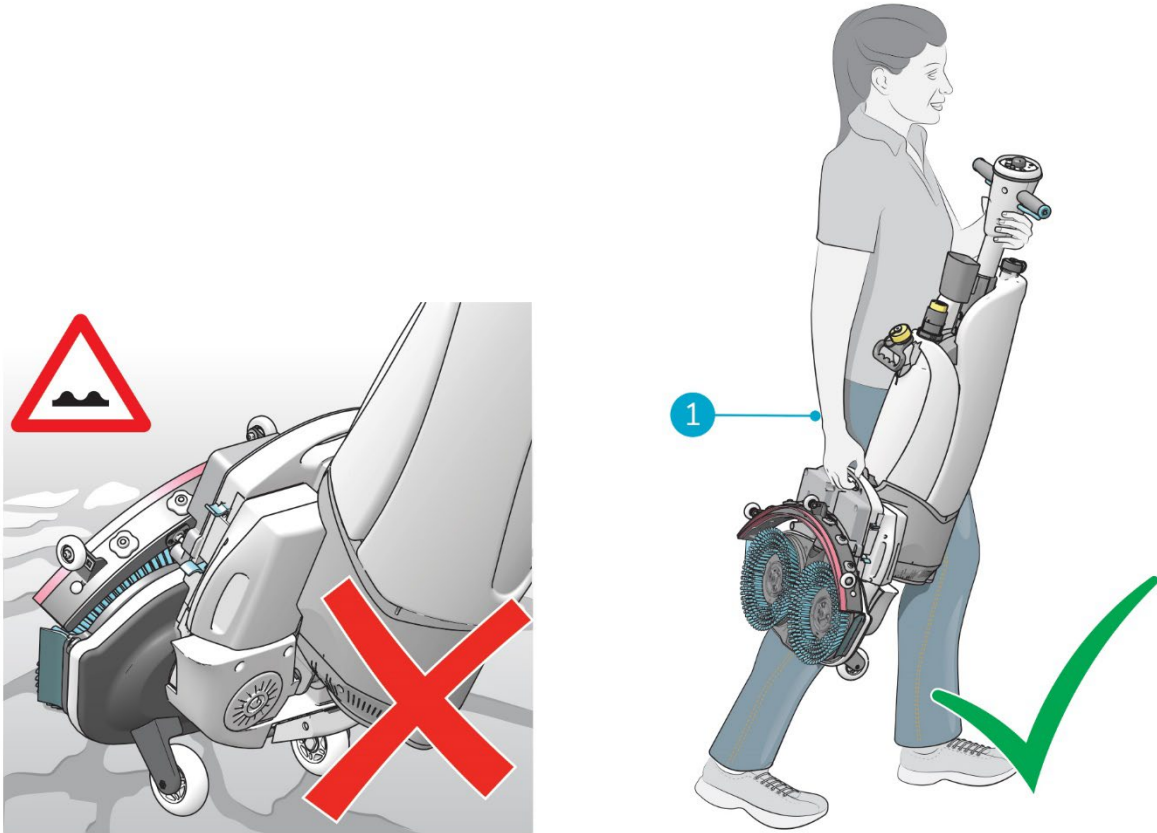

Figure 5
2. Carry the i-mop XXL Pro with one hand while holding the handle (Figure 5, pos 1) with your other hand.